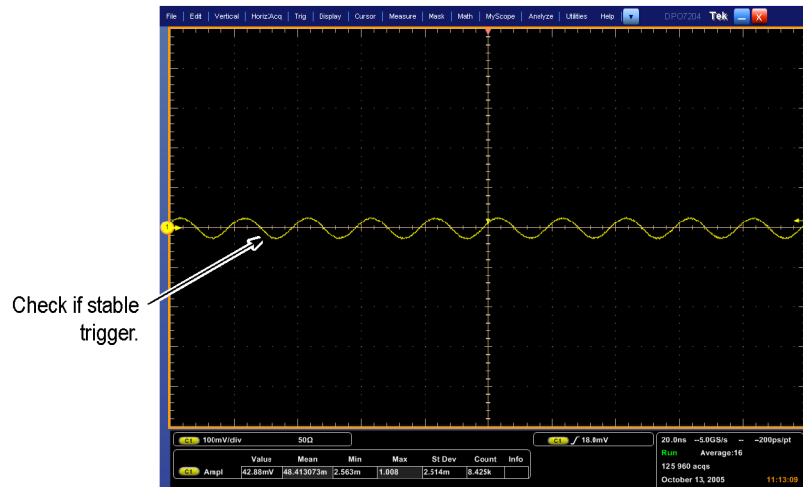

Figure 31: Measurement of trigger sensitivity - 50 MHz results shown
- CHECK that a stable trigger is obtained for the test waveform for both the positive and negative slopes of the waveform. (See *Figure 31: Measurement of trigger sensitivity - 50 MHz results shown* on page 144.)
- CHECK that a stable trigger is obtained for the test waveform for both the positive and negative slopes of the waveform. Adjust the Trigger Level to stabilize the A trigger. Click **Level** and use the keypad or the multipurpose knob/Fine button to stabilize the B trigger. Click one of the Slope buttons to switch between trigger slopes. (See Figure 31: Measurement of trigger sensitivity - 50 MHz results shown on page 144.)